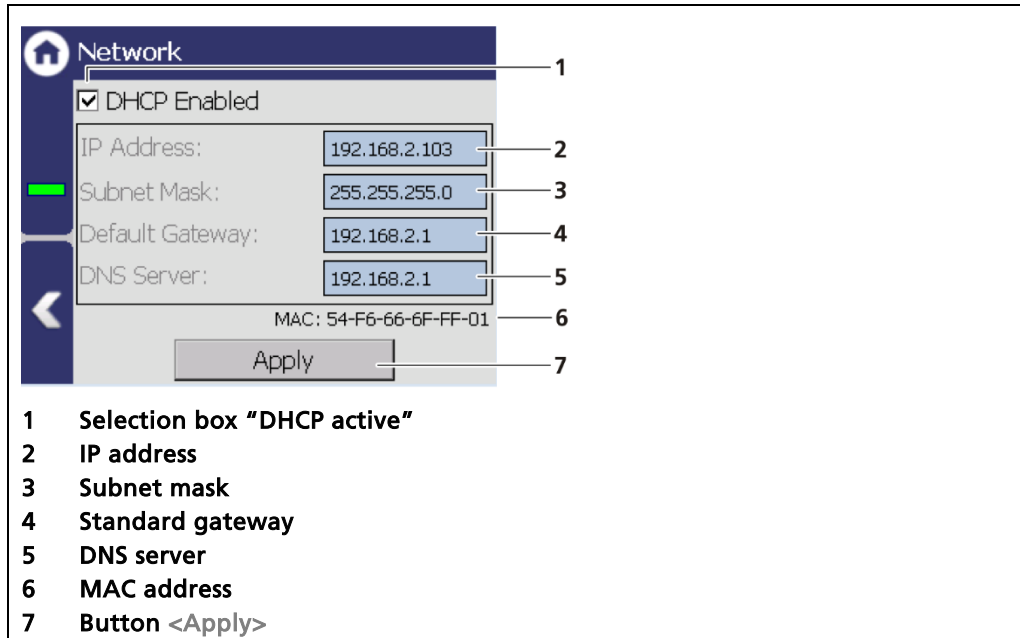
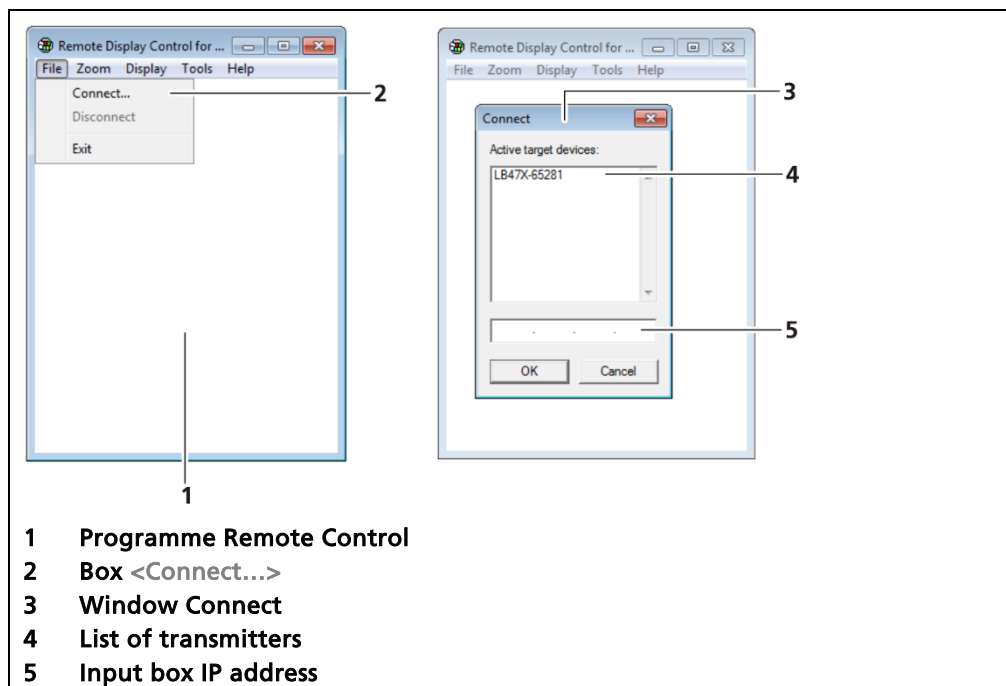

Fig. 51 Network settings
Fig. 52 Establishing connection to the EVU using the RC software
You can set the network address either manually or using DHCP (automatic assignment). To do this, check the "DHCP active" selection field (Fig. 51, item 1).
In the event of an automatic assignment of the IP address by a DHCP server, you can only look at the given IP address. A modification of the IP address is not possible. On this side, you can also read the MAC address of the device (Fig. 51, item 6).
1. Click on the text field (Fig. 51, item 2 - 5) to open the input field.
4. Click on <Apply> (Fig. 51, item 7) to adopt the network settings.
- The program starts (Fig. 52, item 1).
2. Click on the <File> tab and then on <Connect...> (Fig. 52, item 2), to establish a connection to the EVU.
- A new window "Connect" is opened (Fig. 52, item 3) and the connected transmitters are listed.
The IP address of the EVU must be in the same sub-network (Fig. 51, item 3) as the network adapter of the computer (see previous Chapter "Network").
3. Click on the identifier of the transmitter (Fig. 52, item 4) or enter the IP address of the EVU in the input box (Fig. 52, item 5) (see Fig. 51, item 2).